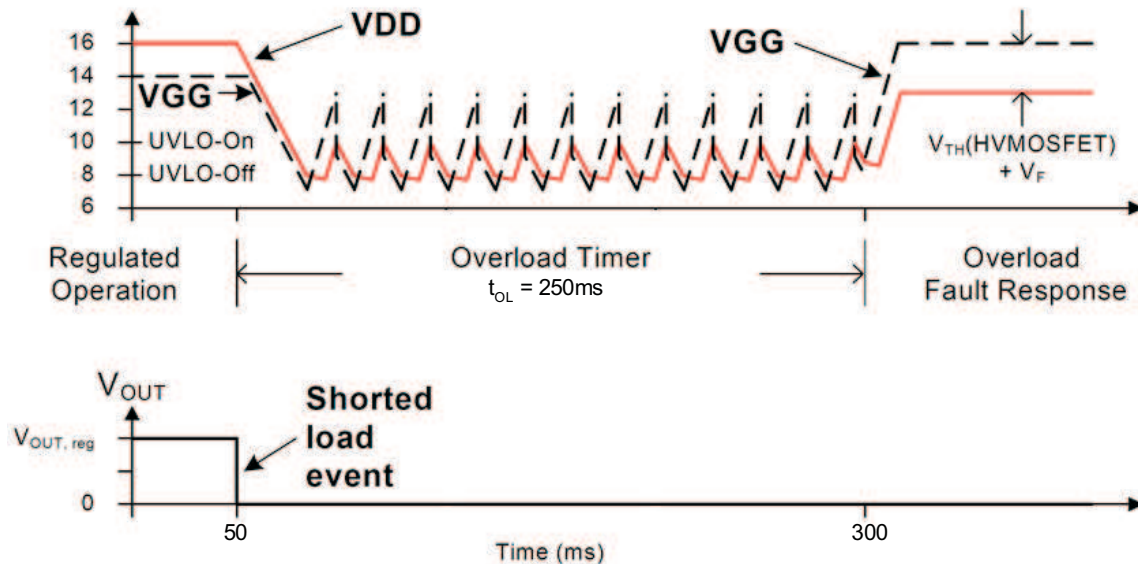

Figure 18. Overload Behavior with a Shorted Output
The UCC28610 reacts with the programmed overload response if the overload lasts longer than t_{OL} (nominally 250 ms). The overload fault responses are either (1) latch-off or (2) shutdown/retry after a retry delay of 750 ms. The overload response is programmed with the MOT pin. The forced DCM feature prevents transformer saturation and limits the average and RMS output currents of the secondary winding of the transformer. Even under short circuit load conditions, the output current of the transformer is limited to the levels that are shown in Equation 1, where N_{PS} is the primary-to-secondary turns ratio. Typical behavior for a shorted load is shown in Figure 18.